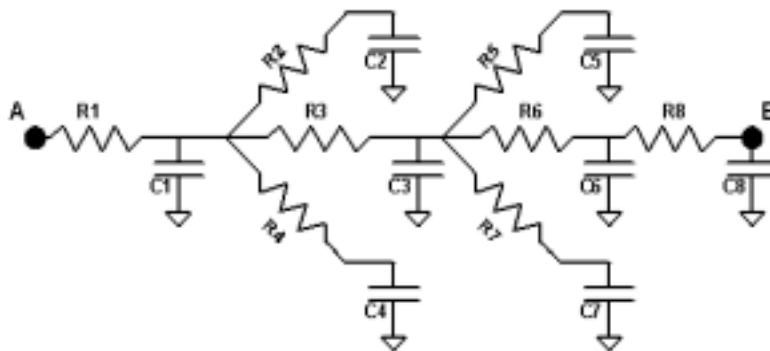

Figure 0.4 RC tree for calculating the delay
7. [M, None, 4.x] For the RC tree given in Figure 0.4 calculate the Elmore delay from node A to node B using the values for the resistors and capacitors given in the below in Table 0.1.
Table 0.1 Values of the components in the RC tree of Figure 0.4